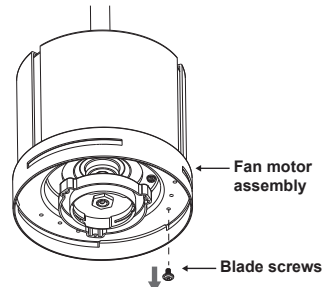

Figure 13
Step 1. Remove the nine blade screws from the fan motor assembly. (Fig. 13)